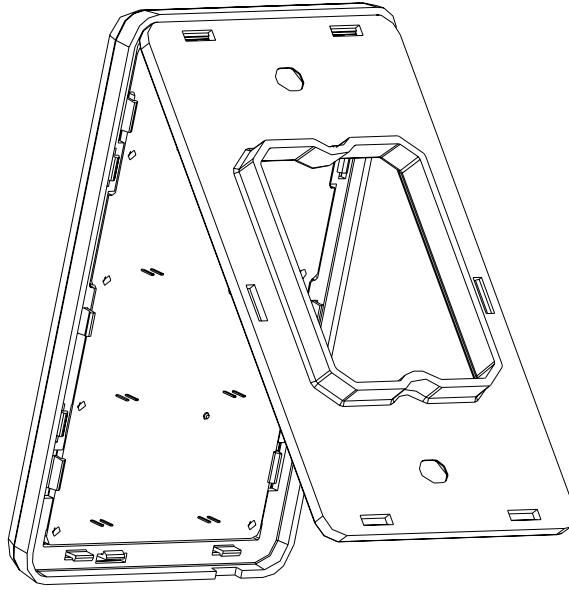

FIG. 16 Attaching the faceplate to the mounting frame
6. Attach the faceplate to the mounting frame first at the top and swing it to the bottom. See FIG. 16.